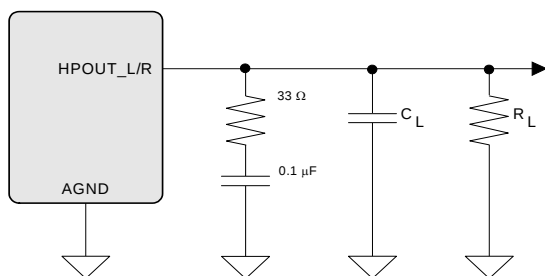
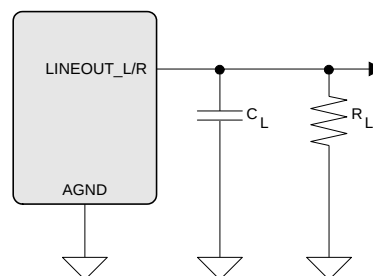

Figure 5. Output Test Load, Headphone Out
Figure 6. Output Test Load, Line Out
(Test conditions (unless otherwise specified): Input test signal is a full-scale 997 Hz sine wave; $V_D = 1.8\text{ V}$; $V_{L_HD} = V_{L_IF} = 3.3\text{ V}$; $T_A = -40\text{ to }+85^\circ\text{C}$; Measurement bandwidth is 10 Hz to 20 kHz; test load $R_L = 10\text{ k}\Omega$, $C_L = 10\text{ pF}$ for the line output and test load $R_L = 16\text{ }\Omega$, $C_L = 10\text{ pF}$ for the headphone output (see Figure 5); DAC Gain = 0 dB).
8. See Figure 5 and Figure 6. R_L and C_L reflect the recommended minimum resistance and maximum capacitance required for the internal op-amp's stability and signal integrity.